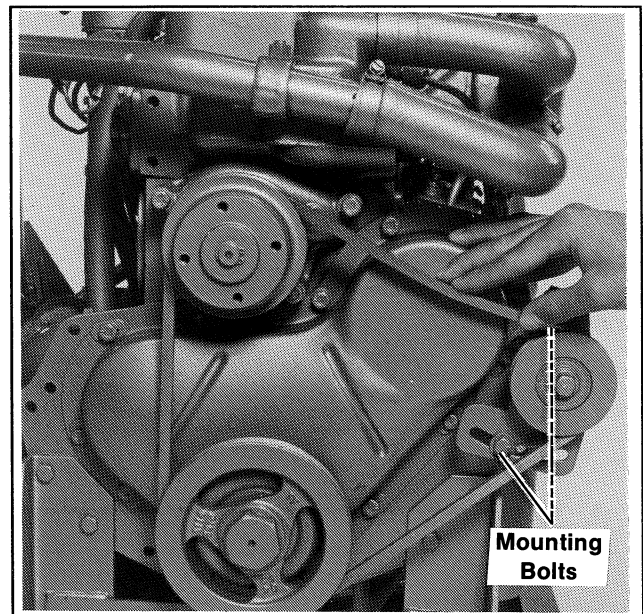

Figure 3-14. Belt Tension- Perkins
1. Loosen two mounting bolts. See Figure 3-14.